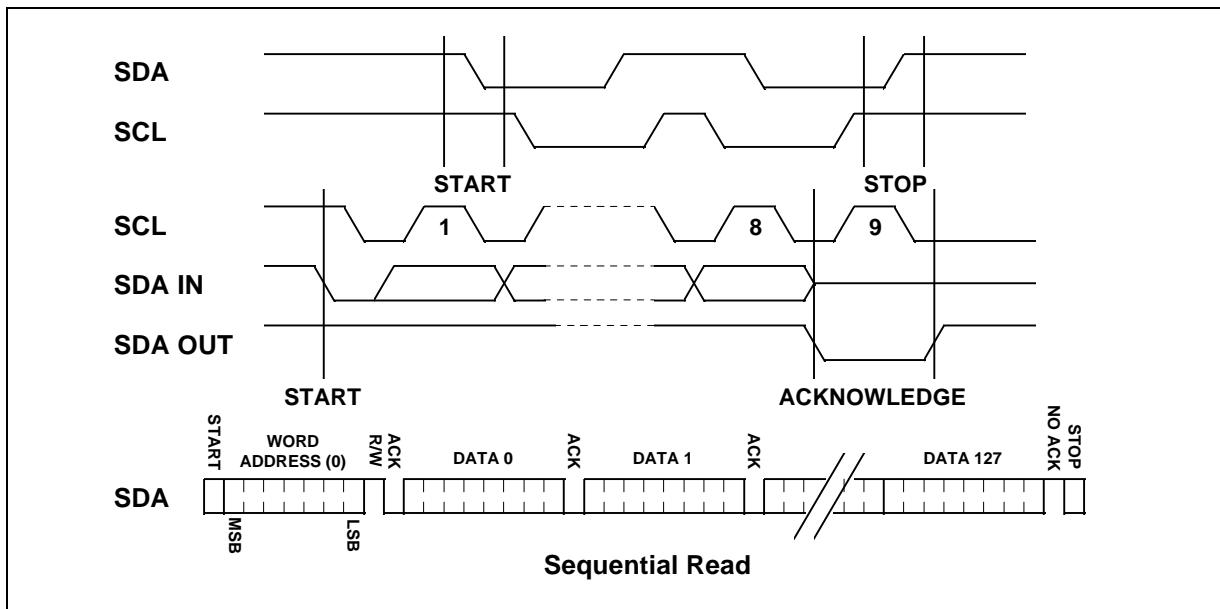

Figure 7.4 EEPROM Timing Diagram
Refer to Figure 7.4, a sequential read is initiated by the W99681CF with a start condition followed by a 7-bit data word address (always 0) and a high read bit. The E²PROM will respond with an acknowledge and then serially output 8 data bits. After the W99681CF receives an 8-bit data word, it responds with an acknowledge. As long as the E²PROM receives an acknowledge, it will continue to increment the data word address and serially clock out sequential data words. The sequential read operation is terminated when the memory address limit (TL) is reached and the W99681CF does not respond with an acknowledge but does generate a following stop condition.